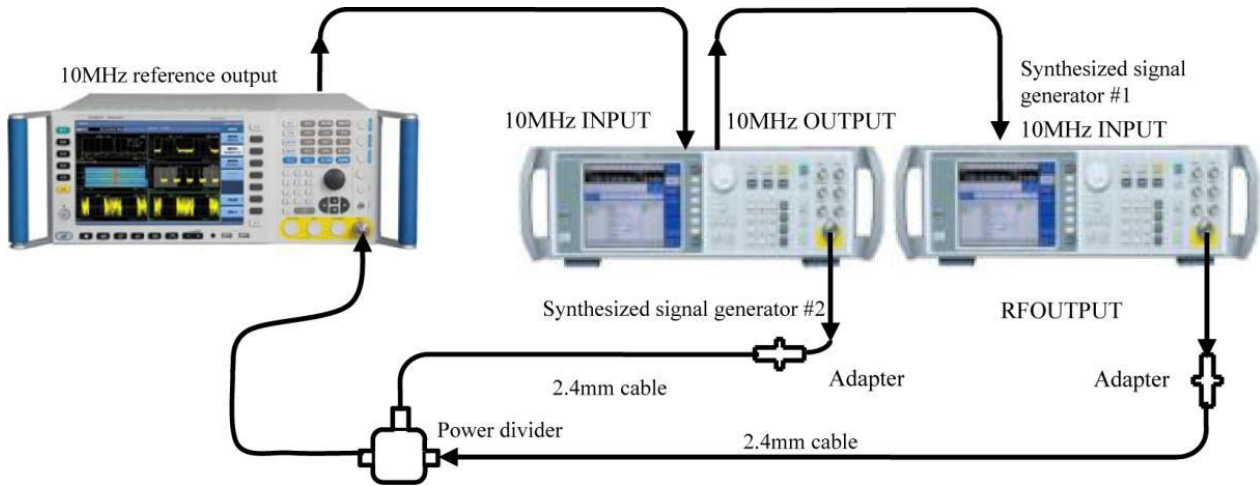

Fig. 8.6 Schematic diagram of maximum analysis bandwidth test
- 1) Connect the tested instrument as shown in Fig. 8.6 and reset the 4051 analyzer.